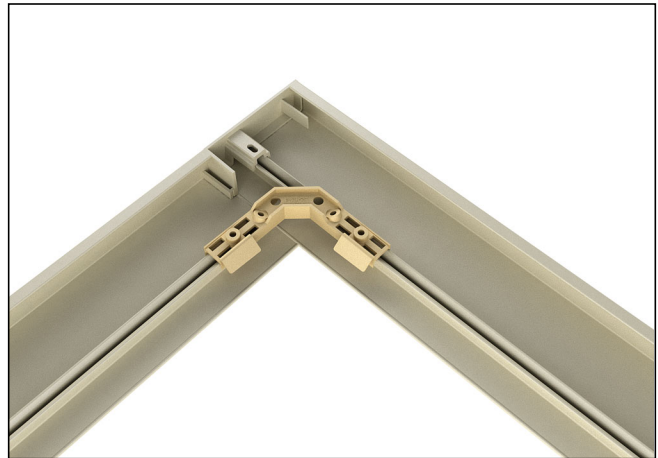

Figure 21
1. Test fit casing parts on flat surface with included corner keys without screws to verify assembly. See *figure 21*.